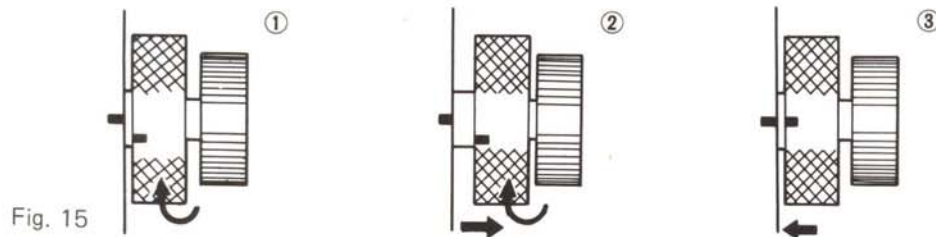

Fig. 15
2) If the ring stops before the red indexes are aligned (Fig. 15-①) pull out the adjustment ring ① (Fig. 15-②).
3) If you obtain a proper tension while rotating the adjustment ring before the red indexes are aligned, pull out the adjustment ring and rotate it only until the red indexes are aligned as shown in Fig. 15-③, then release it back to click into position.